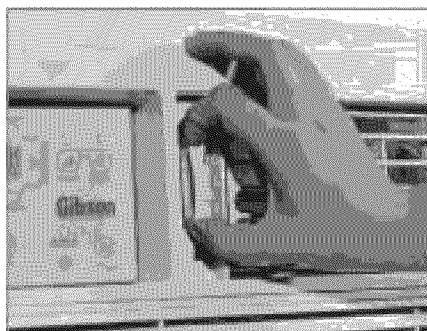

Fig. 1 (OFF)
- Recirculate Inside air - Vent Closed (see Fig. 1)